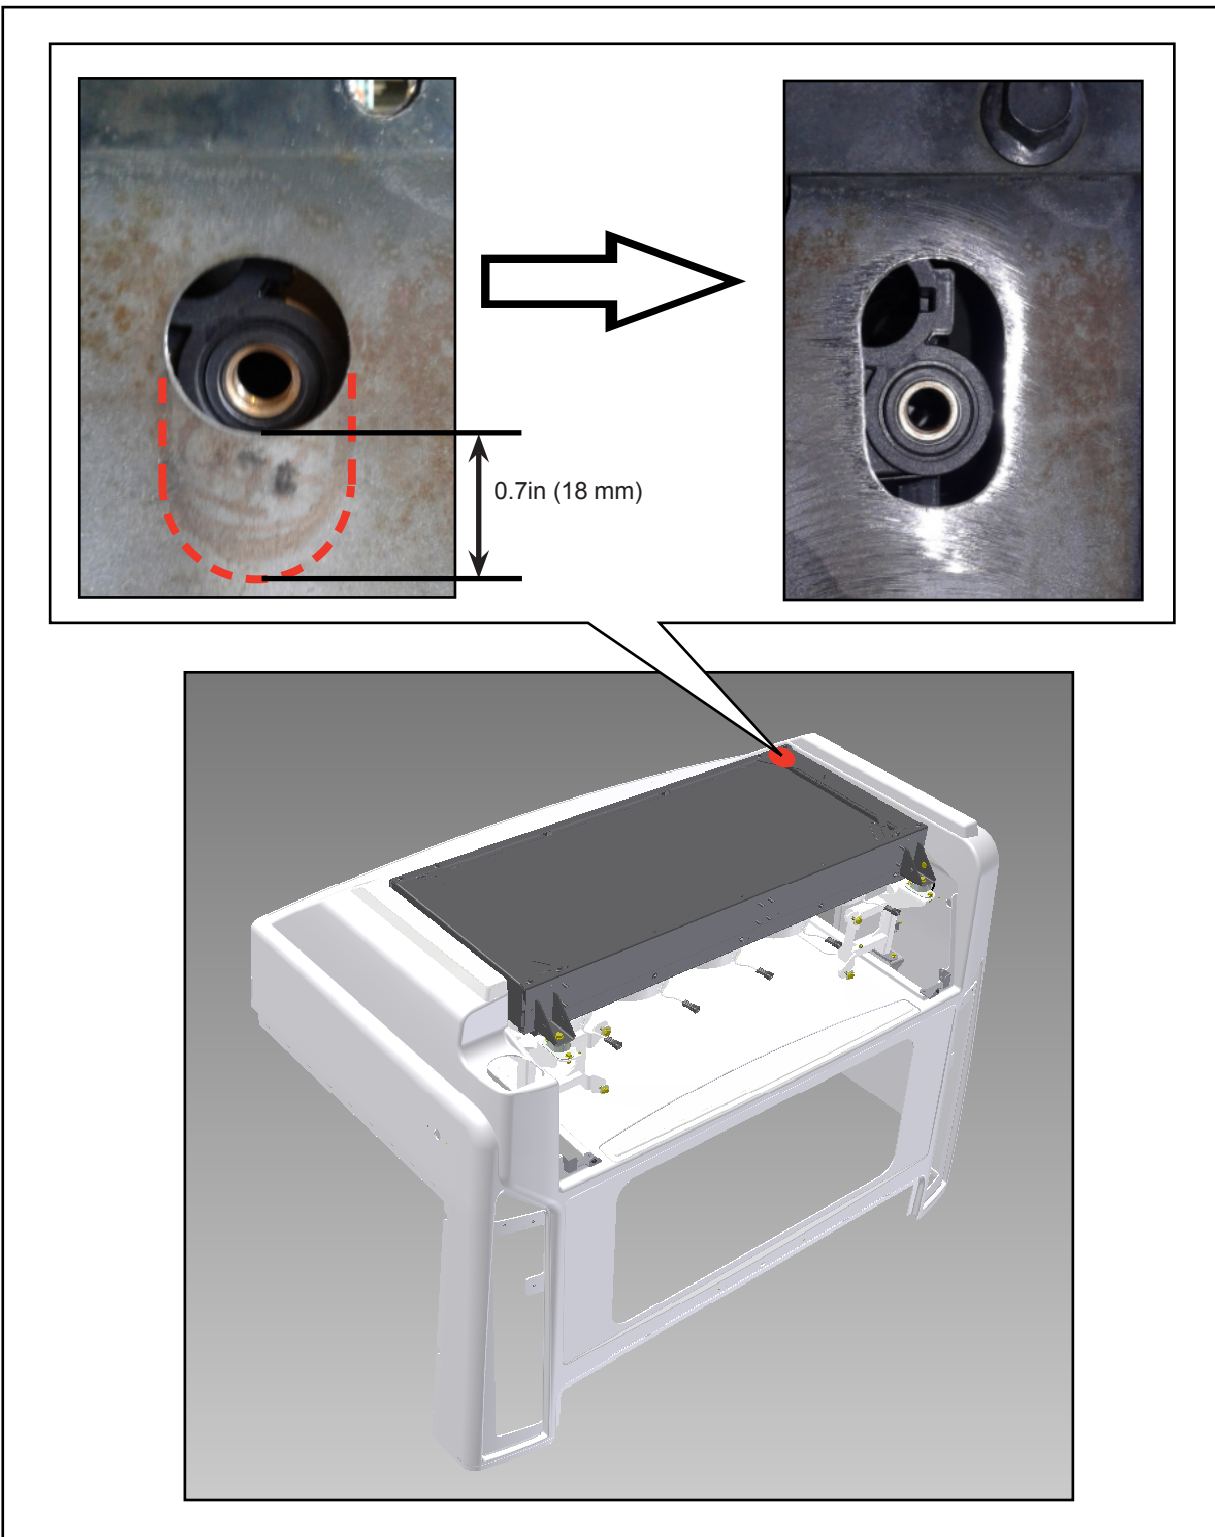

Figure 7 - Typical View of Vent Provision on Curb Side
- 1.23. Enlarge the opening on the curb side of the radiator assembly frame (see Figure 7).